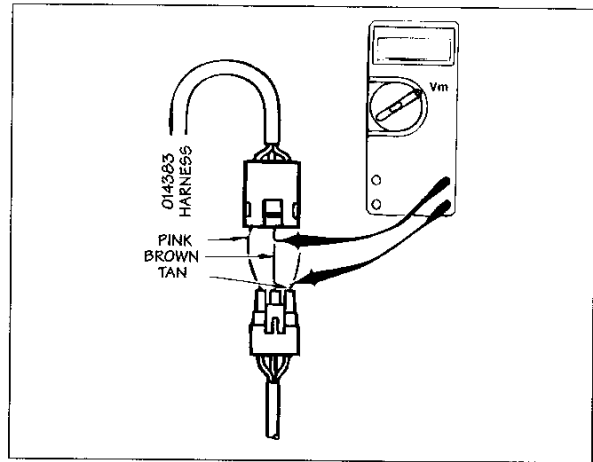

FIG. 1.1.12
**Correction:** De-energize the system and disconnect the harness, P/N 014383, from the ALIPS harness. Using the three clip leads, reconnect the brown, tan and pink wires. Connect the positive (+) probe to the tan wire and the negative (-) probe to the brown wire (Fig.1.1.12). With the system energized and clutch engaged (pedal up), reading should be 5 volts. If not, replace the control module.